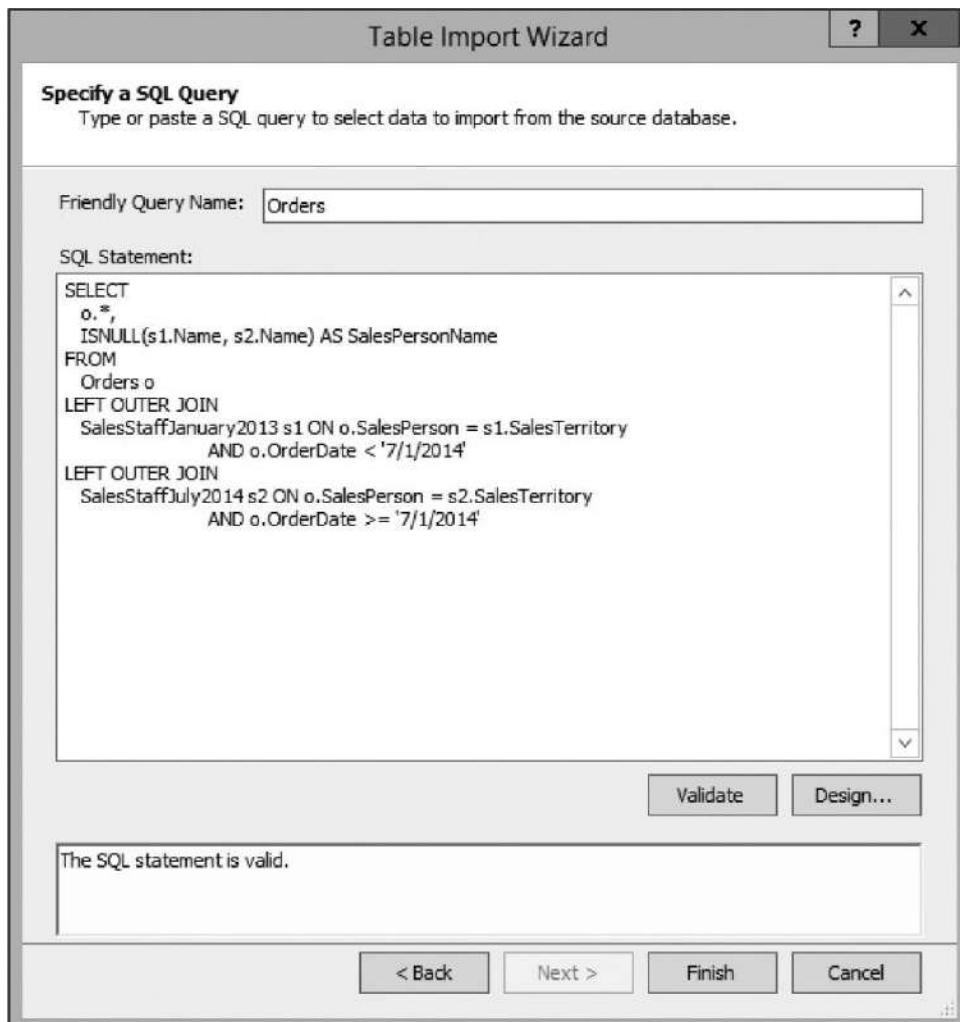

Figure 9-11 The Specify a SQL Query page of the Table Import Wizard
7. Click Validate to ensure the query was entered correctly. The dialog box should appear, as shown in Figure 9-11 .